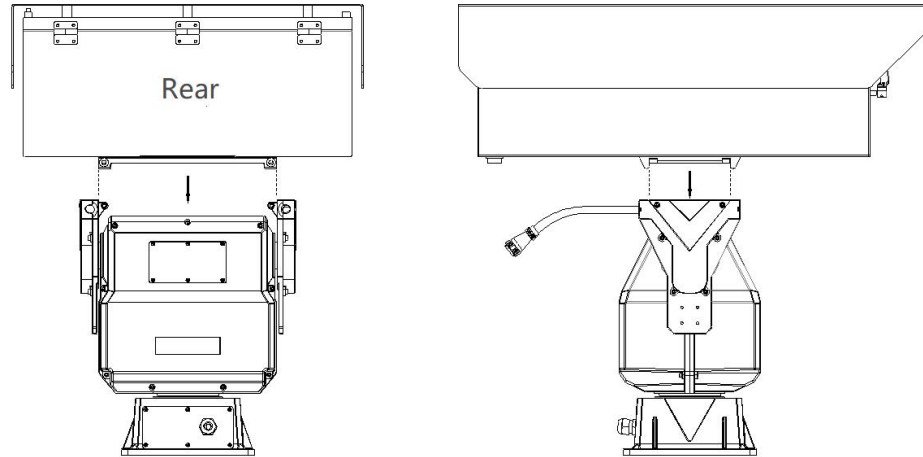

Figure 2.5 Install Protective Cover
Step 5 Drill four mounting holes on the mounting surface according to the instructions as shown in figure 2-5.